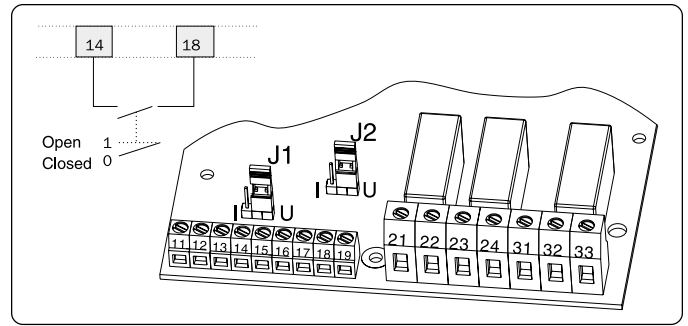

Fig. 24 Slow speed external input connection.
2. Connect the external input wires to terminals 18(+) and 14 (input). See Fig. 24 on page 49.